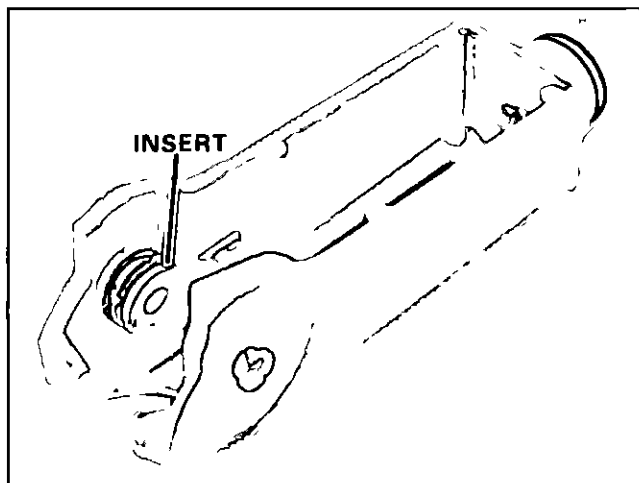

Figure 5. Removing Insert.
- D Remove insert and two (2) nylon bearings from steering handle Figure 5